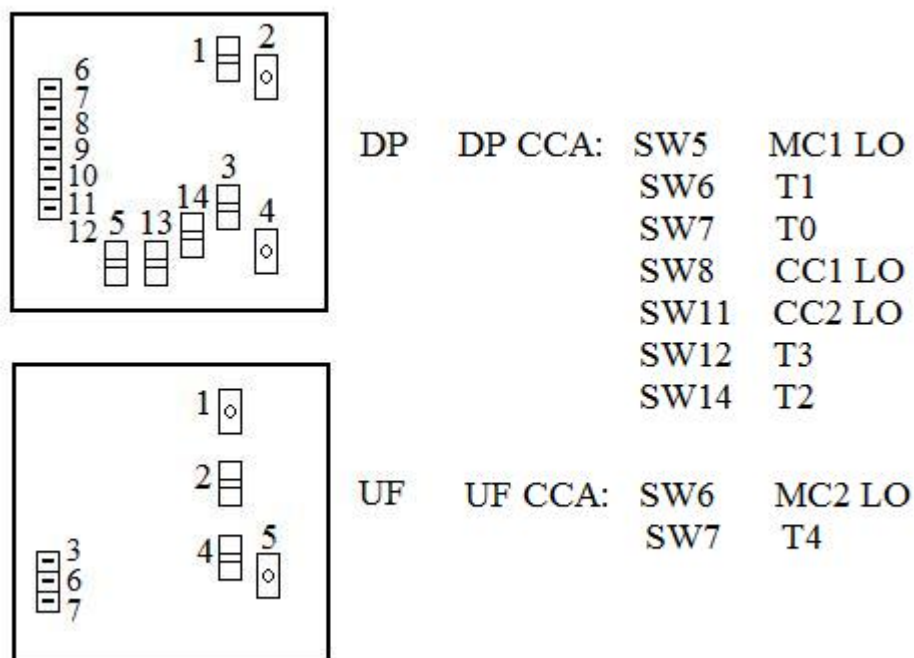

Figure 3 - Diagram Illustrating Position of Calibration Switches on DP and UF CCA Boards
- Connect all the concentrate lines into their respective rinse ports. Ensure that the NOVRAM parameters # 89 to # 95 are set to their default values: check the UFC SWB bytes 5M, 5L, 6M, 6L, 7M, 7L, and 8M. Turn the power of the system off. Place the conductivity and temperature sensor of the Neo-2 pressure meter in series with the dialyzer hoses (replacing the role of the dialyzer). Place the Hansen connector shunts on the bypass block connectors. Set the switches SW2 and SW1-8 down. Figure 3 illustrates how all the calibration switches should be directed for this procedure.